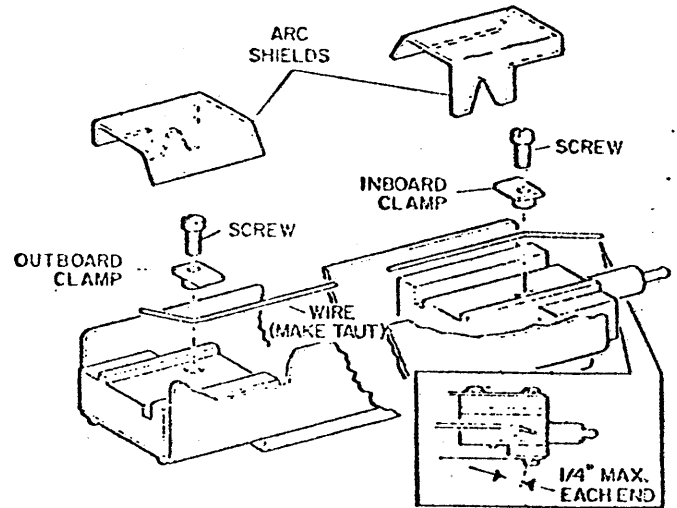

Fig. 3-157B. Restringing of Transfer, Pre-transfer, and Charge Corotrons
1. Snap off the arc shields and loosen the screws. Remove the old wire, making sure all pieces are removed from under the clamps (Fig. 3-157B).